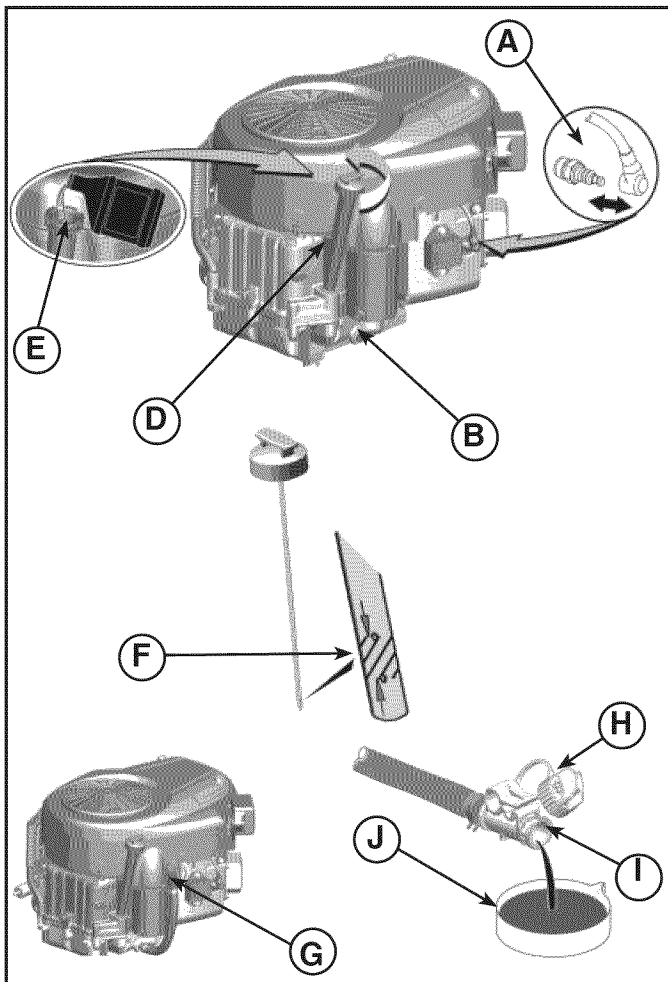

FIGURE 9
1. With engine off but still warm, disconnect the spark plug wire (A) and keep it away from the spark plug (Figure 9).
2. Remove the dipstick (D).
1. Disconnect the oil drain hose (G, Figure 9) from the side of the engine.
2. Turn and remove the oil drain cap (H). Carefully lower the quick oil drain (I) into an approved container (J).
4. Remove the dipstick (D) and wipe with a clean cloth (Figure 9).
5. Pour the oil slowly into the engine oil fill (E). Do not overfill. After adding oil, wait one minute and then check the oil level.
7. Remove the dipstick and check the oil level. It should be at the FULL mark (F) on the dipstick.